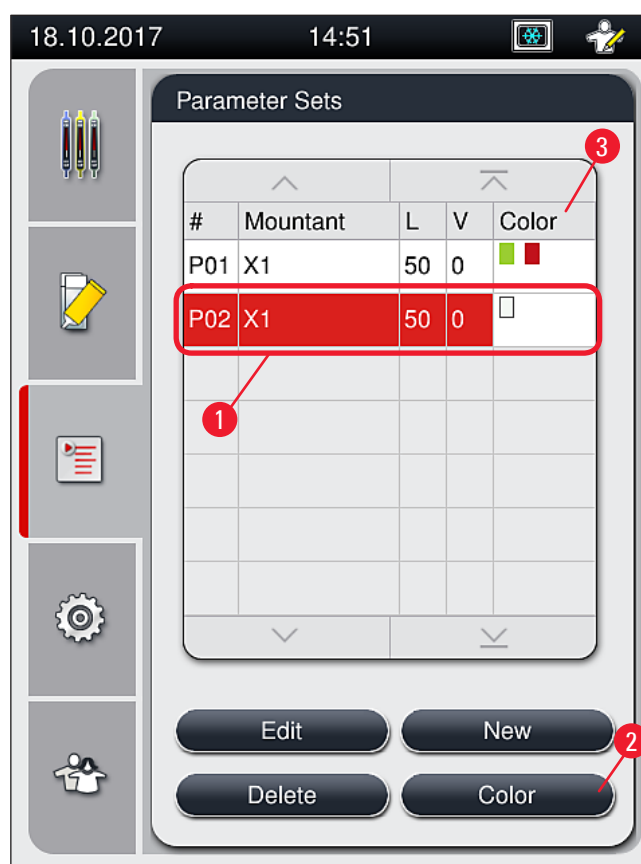

Fig. 45
1. In the parameter set menu (→ Fig. 45), tap on the corresponding entry to select the parameter set to which a rack handle color is to be assigned (→ Fig. 45-1).